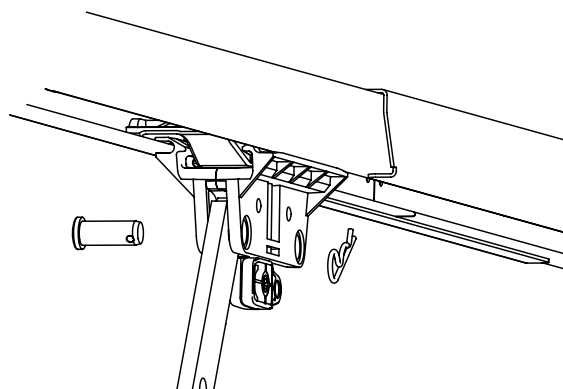

FIG. 2.
6. Remove the cotter pin & clevis from door arm to separate door from opener. Fig. 2.